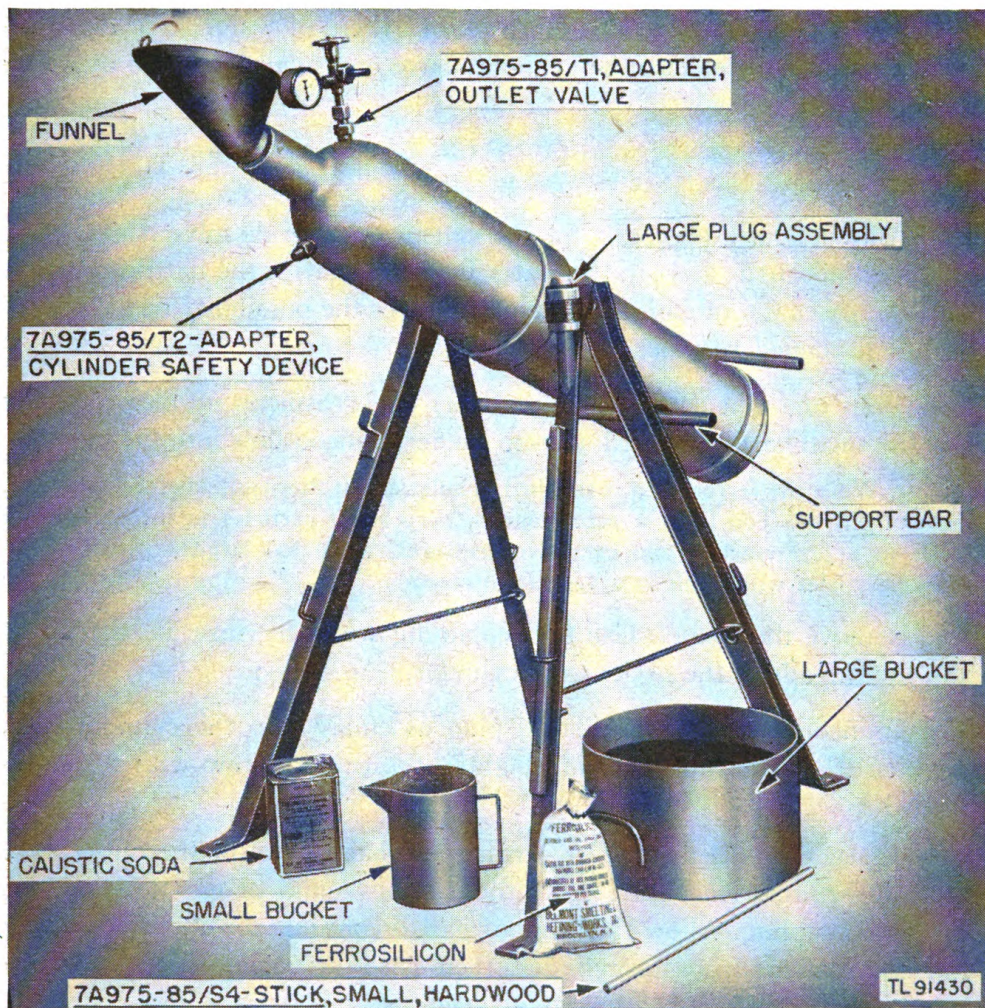

Figure 10. Generator ML-185-(\*), inclined charging position.
b. Tilt the cylinder so that the outlet valve assembly is on the upper side. (See fig. 10.) Secure the support bar of the proper A-frame to the bar hook opposite it on the other A-frame. Lower the cylinder *gently* on the crossbar to prevent bending the bar. The bar now supports the cylinder at an angle of 45°.
d. Set the cylinder in the inclined charging position of 45°. (See fig. 10.) Be sure to lock the supporting crossbar in place.